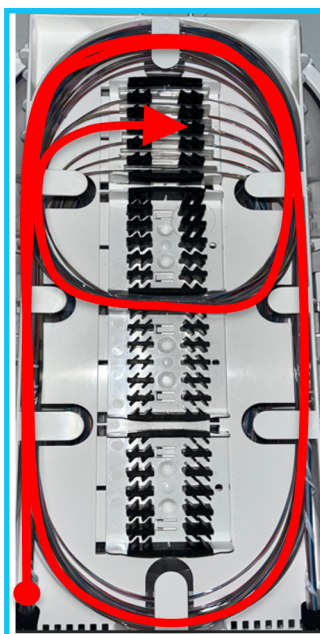

Figure 10.1
1. Fibres entering the left-hand side of the tray should loop 2 times (>1m) and enter the top left-hand side splice protector holders from the top position down [Figure 10.1].